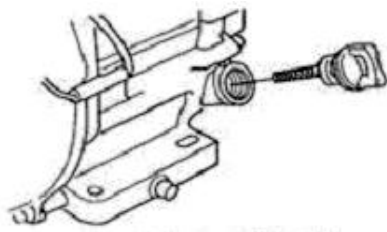

Figure 3. Engine Oil Dipstick
2. Remove the filter cap / dipstick from the engine oil filter hole (Figure 3) and wipe it clean.